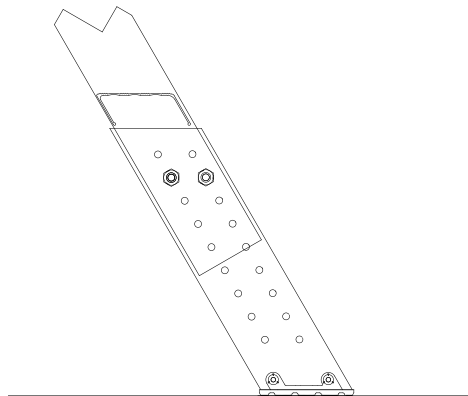

Figure 12
17. Using a $\frac{1}{4}$ " drill bit and using the adjustable shoe as a template drill the two holes that are the most centered in the overlap with the adjustable shoe and the side rail. Make sure there are no gaps between any two sections (See Figure 12).
18. Attach the adjustable shoes using (2) $\frac{1}{4}$ " bolts, ~~washers~~ and locknuts per side.